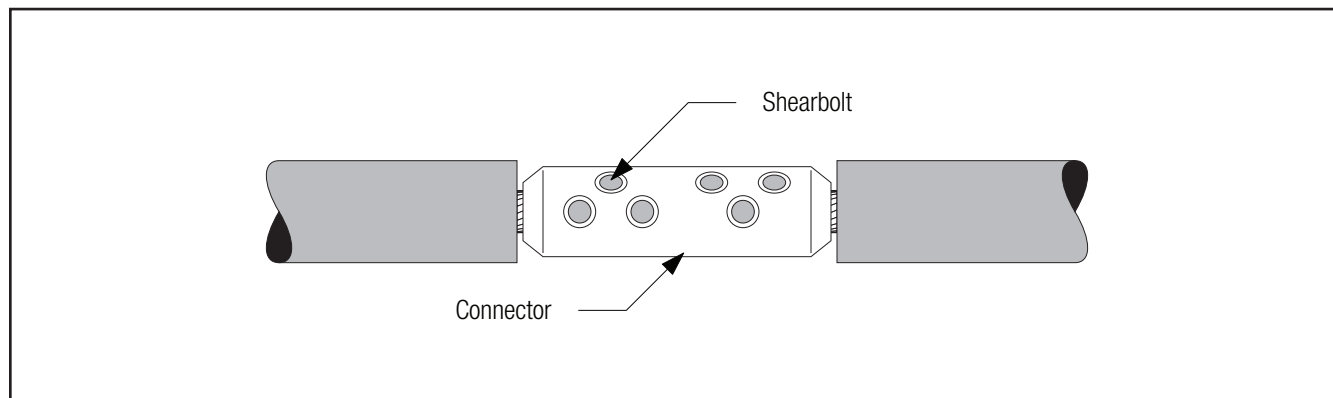

Figure 9
3.2 Install 3M™ Shearbolt Connector QCI 2-250 according to the instructions included with the connector (Figure 9).